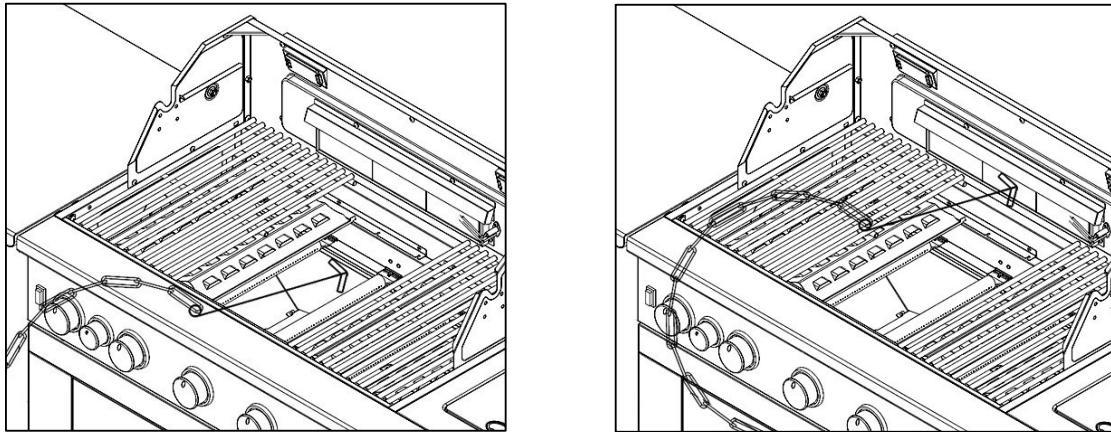

Fig. 37 Match/Paper Lighting Illustration
4. Attach either the match or paper to the clip shown in Fig. 37, light the match and insert it close to the ports of the burner, push and turn the depressed knob to the left to "HIGH" position.